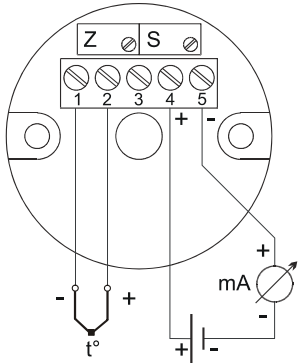

Fig. 2 Connections
Connect input, output and power supply according to Fig.2.
- 1. Connect the transmitter to power supply, an input source and a mA-meter as shown in Fig.2. If the input source is a T/C simulator, connect it to the input terminals via an extension wire.